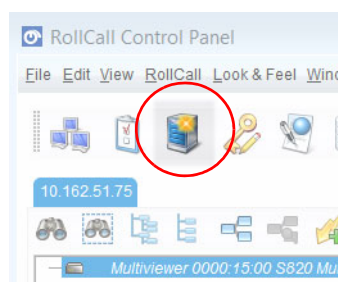

Fig. 11-5: Import New Upgrade Icon
- 3 Click the **Import New Upgrade** icon, see Figure 11-5. The **RollCall Upgrade Packages** window is displayed.